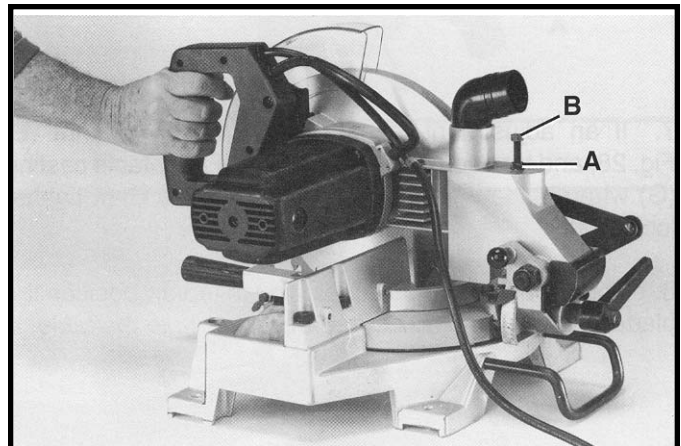

Fig. 31
2. The downward travel of the saw blade can be limited to prevent the saw blade from contacting any metal surfaces of the machine. This adjustment is made by loosening locknut (A) Fig. 31, and turning adjusting screw (B) in or out.
3. When making this adjustment, MAKE SURE THE MACHINE IS DISCONNECTED FROM THE POWER SOURCE and lower the blade as far as possible as shown in Fig. 31. Rotate the blade by hand to make certain the teeth do not contact any metal surfaces and adjust if necessary.